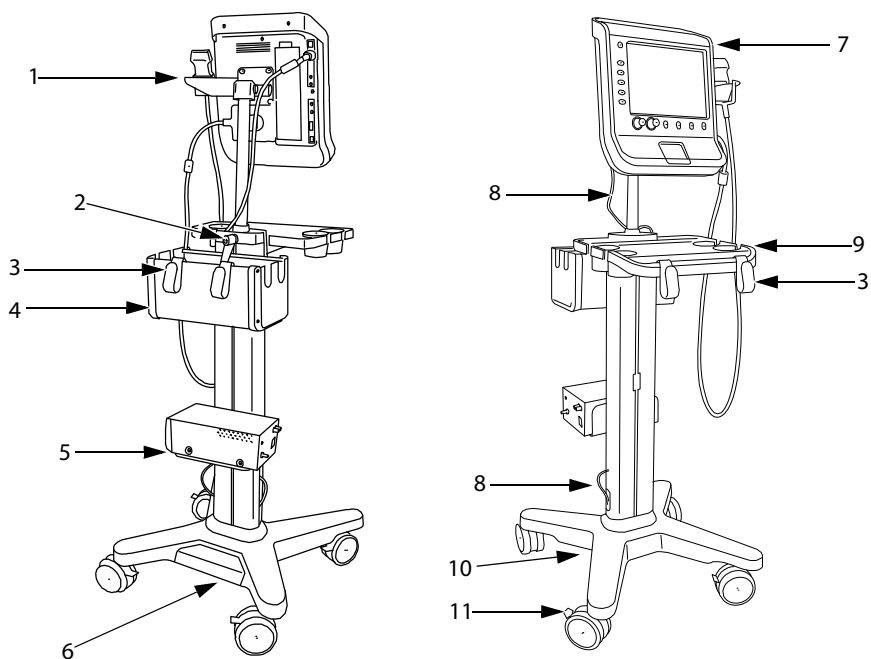

Figure 1 V-Universal Stand: Back and front views (shown with S Series ultrasound system and optional printer, basket, and tray)
- ❖ Connect the following cords. See Figure 1 on page 3.
- DC power cord (A)
- System AC power cord (K)